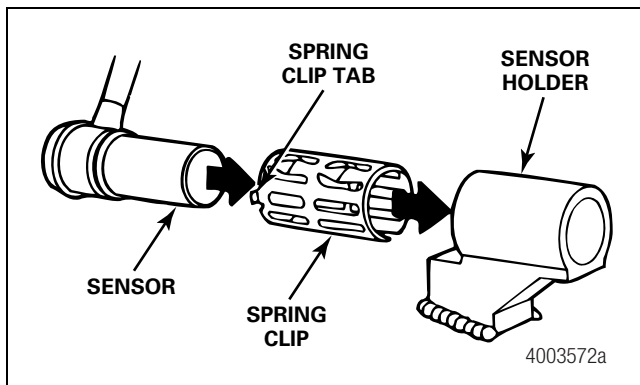

Figure 32
- Push the spring clip into the sensor holder from the inboard side until the spring clip tabs are against the sensor holder. Push the sensor into the spring clip as far as possible. Figure 32.